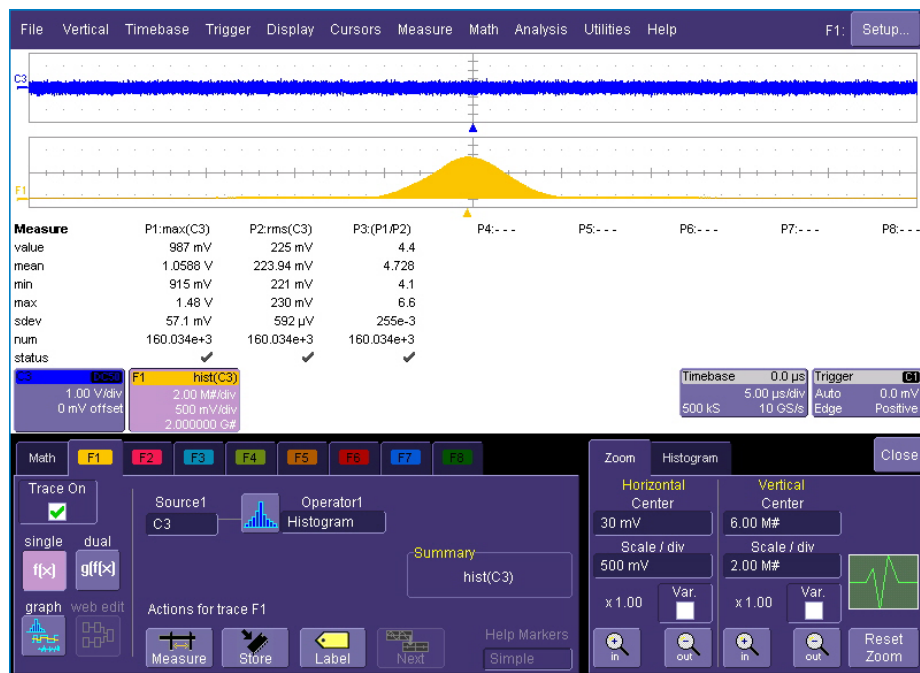

Figure 3
8. Set "Source 1" to "C3" and "Operator 1" to "Histogram" (see Figure 3).